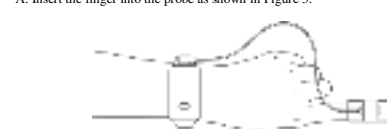

Figure 3 Sketch map for finger placement
- The finger should be placed correctly (see Attached figure 3), as improper installation or improper contact position for sensor will influence the measurement.
- A. Insert the finger into the probe as shown in Figure 3.
(The appearance of actual probe may be different with the one shown as Figure 3, please refer to the actual probe.)